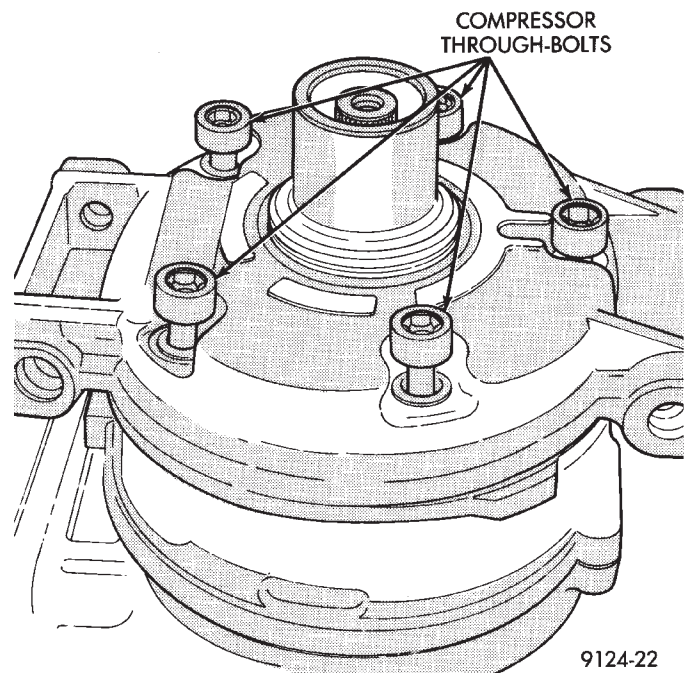

Fig. 7 Compressor Through-Bolts
- (1) Discharge the refrigerant system.
- (2) Remove A/C compressor.
- (3) Remove compressor clutch/coil assembly.
- (4) Remove compressor through-bolts (Fig. 7).